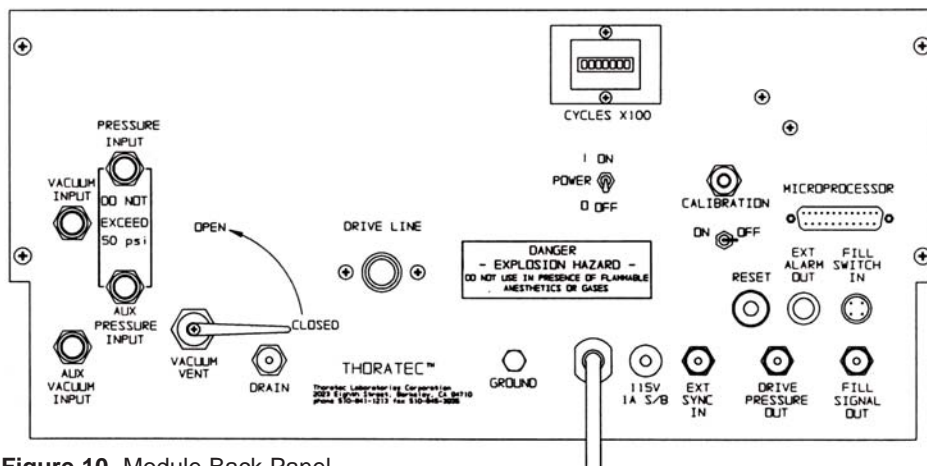

Figure 10 Module Back Panel
- 3 Turn top and bottom module Power switches to On and verify that Calibration switches are Off (module back panel - **Figure 10**).